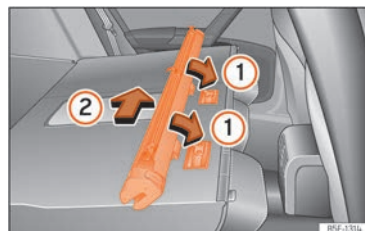

Fig. 140 Assembling the net partition in the rear seat backrests.
- Place the net casing in the rail slots in the direction of the arrows »» Fig. 140 ①.
- Push the casing towards the left side of the vehicle in the direction of arrow »» Fig. 140 ② and as far as it will go.
- Pull the net casing out approximately 5 cm in the opposite direction to the arrow »» Fig. 140 ②.
- Remove the casing from the rails by pulling in the opposite direction to the arrows »» Fig. 140 ①.